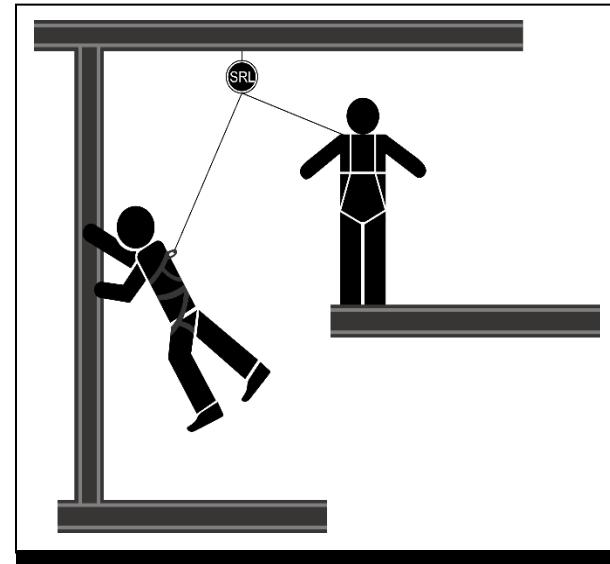

Figure 3: Diagram of a swing fall.
**5.5 SWING FALLS:** Swing falls occur when the anchorage point is not positioned directly above the point at which a fall occurs (refer to Figure 3). The resultant force of striking an object while in a swing fall may cause serious injury or death. Do not permit a swing fall if injury could occur. To minimize swing falls, work as close to the anchorage point as possible.